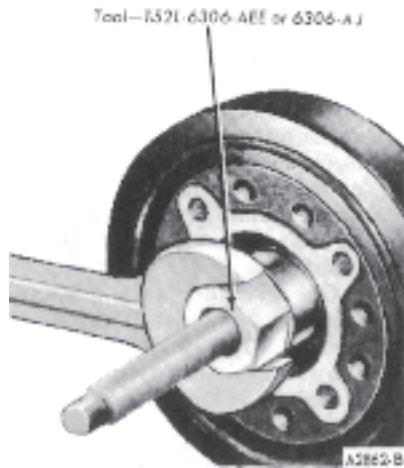

Fig. 26 Installing Crankshaft Vibration Damper
12. Line up the crankshaft vibration damper keyway with the key on the crankshaft. Install the vibration damper on the crankshaft (Fig. 26). Install the cap screw and washer. Tighten the screw to specifications. Install the crankshaft pulley.